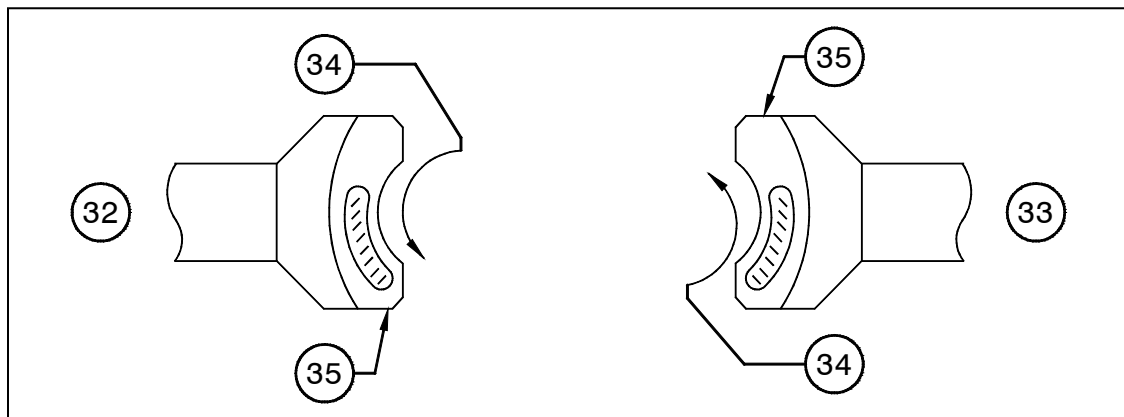

Figure 4.7g
- .16 Check for proper pattern between the worm shaft (14) and gear teeth (19) as follows:
- a. Coat the gear teeth (19) with Prussian blue.
- c. Compare the actual tooth contact pattern with the correct contact pattern shown in Figure 4.7g.
- .17 If the actual pattern on the gear teeth is not as shown in Figure 4.7g, adjust for correct pattern by tightening or loosening the lock nut (13) to raise or lower the worm gear.
- .18 After any adjustment to the nut (13) coat the gear teeth with Prussian blue and recheck tooth contact pattern.
- .19 After the adjustments for tooth contact are complete, bend the locking tabs of the lock washer (13) to secure the nut (13).